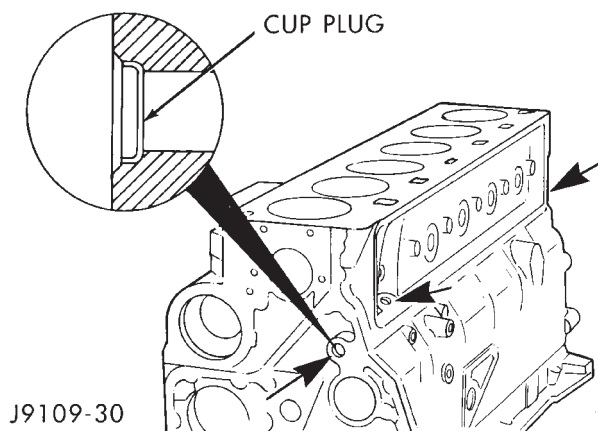

Fig. 24 Cup Plug Locations in Cylinder Block
- (1) Remove the cup plugs from the oil passages (Fig. 24).
- (2) Apply a bead of Loctite 277 around the outside diameter of the oil passage cup plugs.
- (3) Drive the cup plugs in until they bottom in the bore (Fig. 24).
- (4) Fill the engine with oil. Run the engine and check for leaks.
- (5) Stop the engine and check the oil level with the dipstick.